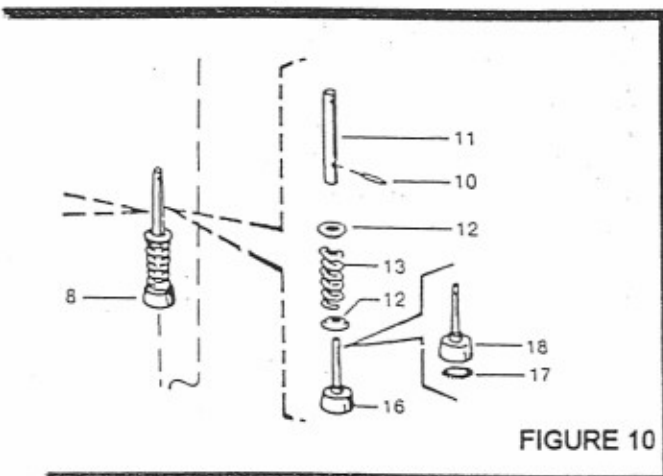
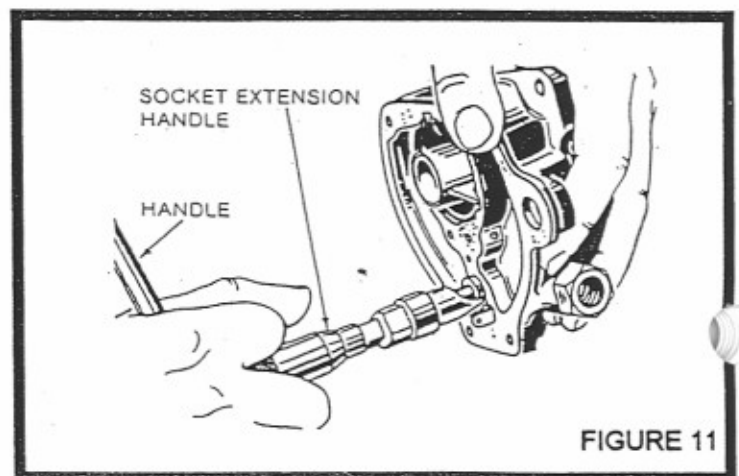

FIGURE 10
FIGURE 11
- 47) Assemble this type in accordance with this special section and Figure 10.
- a. Hold a spring seat (12) against each end of the spring (13) and slide the pump plunger and stem assembly (16) through the spring.
- b. Slide the pump plunger rod (11) over the end of the pump plunger stem (11) so that the hole at the lower end will be in alignment with the slot in the stem. Apply finger pressure
- against the top spring seat (12) to compress the spring (13) far enough to permit insertion of the spring seat locating pin (10). After the pin (10) is in place, release pressure on the spring (13) to hold the pin securely in position. Press down against the top of the pump plunger rod assembly (11) to make certain that the stem on the pump plunger and stem assembly (16) will slide freely in the end of the stem.
- 48) If the pump leather expanding spring (17) was removed, install it carefully under the pump leather.
- 49) Install fuel inlet fitting-strainer assembly (46), and gasket (47). Torque fitting (46) to 10-12 foot pounds.
- 50) Install float valve seat (27), and gasket (28) using tool No. M-104. See Figure 11. Torque to 10-12 foot pounds.